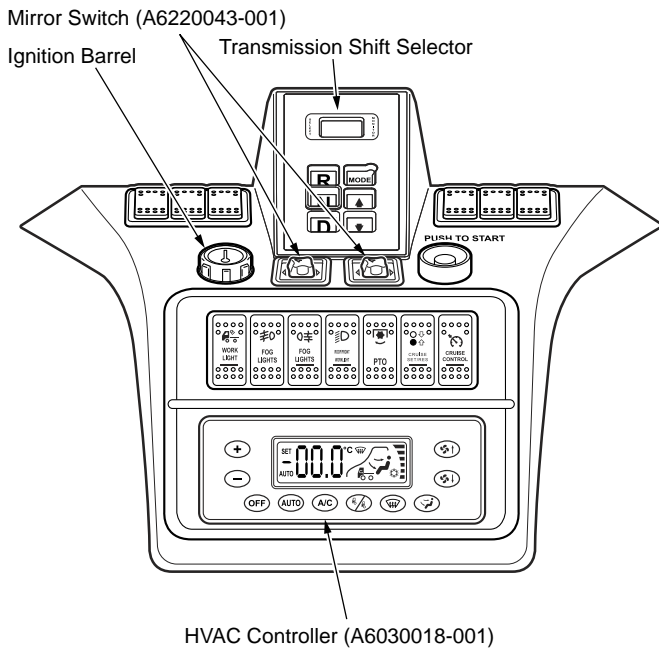

Figure 25-1
1. Reconnect the transmission shift selector connectors (see *Figure 25-1*).
2. Reconnect the mirror switch (A6220043-001) connectors (see *Figure 25-1*).
3. Reconnect the ignition barrel connector and the HVAC controller (A6030018-001) connector (see *Figure 25-1*).